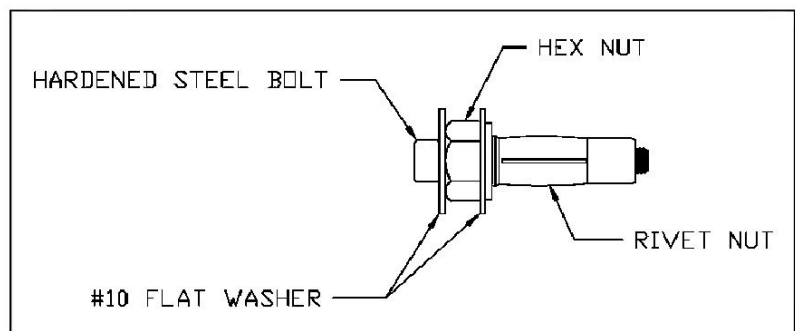

Figure 2
9. Place a #10 flat washer, hex nut, another #10 flat washer and rivet nut on black hardened steel bolt, shown in **Figure 2**, and place in drilled hole. Use a 7/16" wrench to hold nut and 5/32" hex bit to turn the hardened steel bolt until rivet nut is tightened down. **(Do not install with drill, use hand tools only)**. Remove hardened steel bolt, flat washers and hex nut. Repeat in all four holes.